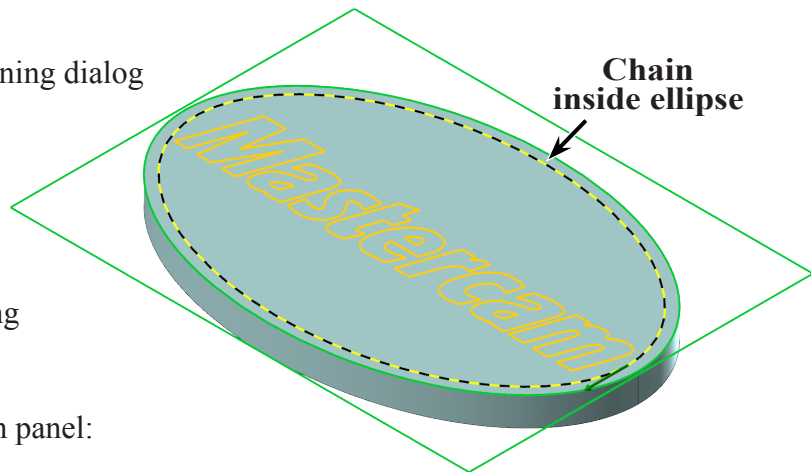

Fig. 17
Step 2. Click **inside ellipse** to chain, **Fig. 17**.